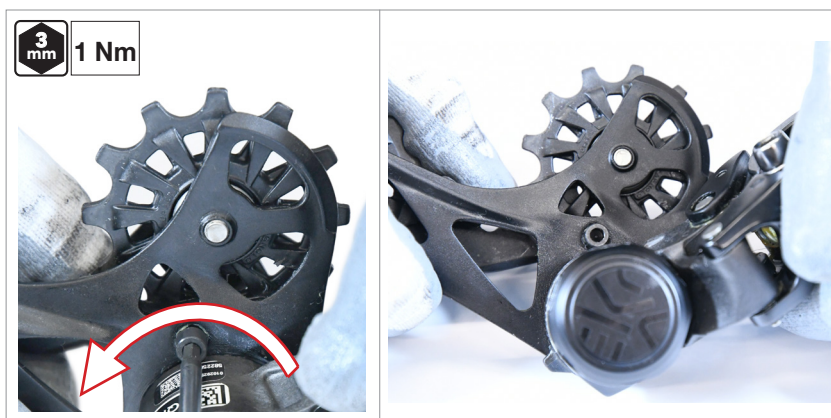

Fig.13
11) Install the jockey cage end-stop screw and, using a 3 mm Allen wrench, tighten the screw to a torque of 1 Nm (Fig.13).